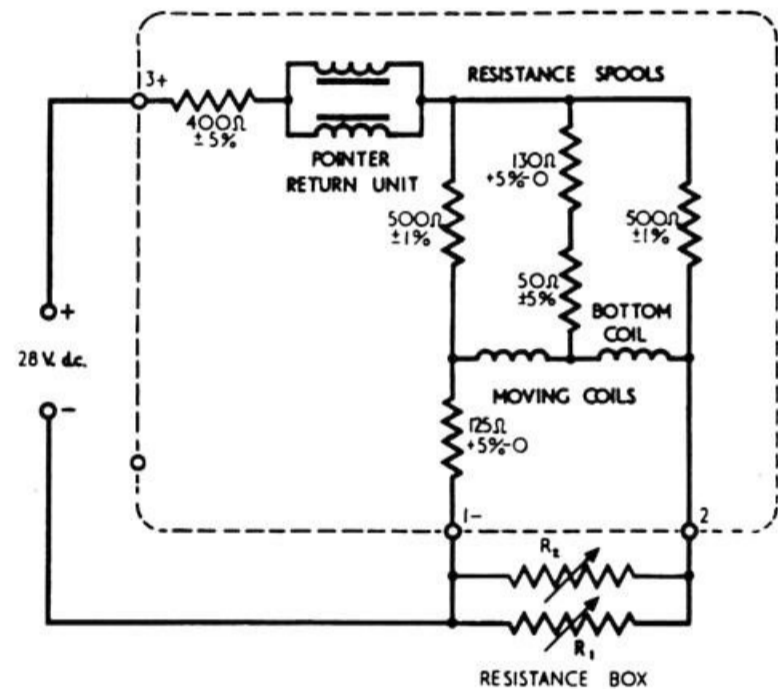

Fig. 2. Circuit and test circuit
3. The combined test and indicator circuit is shown in Fig. 2 and connection to the indicator is made via three terminal screws, 1, 2 and 3, which are shrouded and secured to the base of the indicator.
4. When testing these indicators for serviceability, the SST given in Chapter 1-1 must be used, but connect two, decade resistance boxes in parallel as shown in fig. 2, and use the calibration values given overleaf in Table 1.